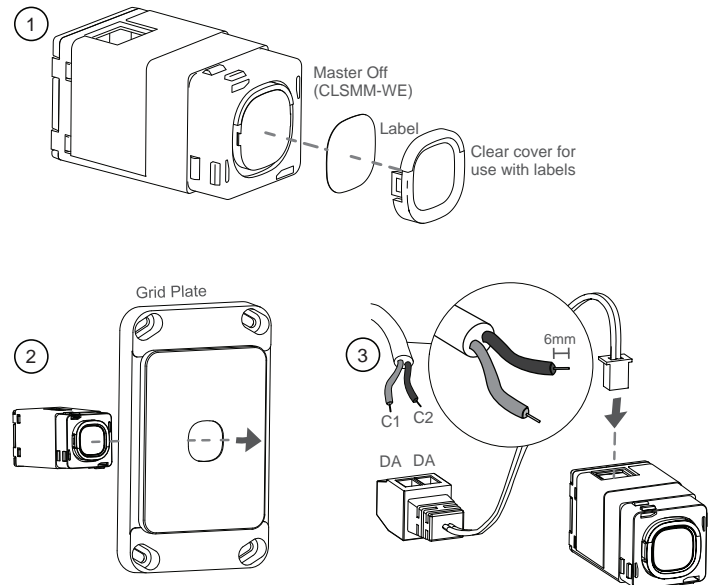

Figure 2: Installing Master Off
- Assemble the label and cover as shown in figure 2 below.